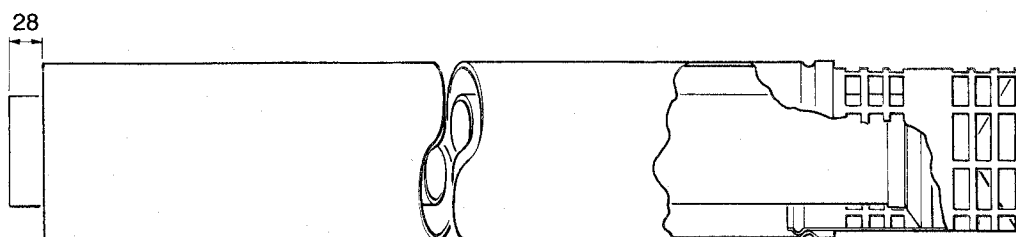

FIG. 11 STANDARD DUCT ASSEMBLY PROCEDURE
- (c) Refer to Fig. 11. Hold the air duct at the plain end, and slide the flue duct (small duct) inside the air duct (terminal first) until the external swage of the terminal stops against the internal swage of the air duct, then mark off the length to be cut, which leaves 28mm protruding flue duct.
- (b) Push the flue duct assembly into the air duct until the external swaged ring on the flue terminal stops against the internal swage on the air duct (Fig. 11).
- (c) Push the flue duct assembly into the air duct until the external swaged ring on the flue terminal stops against the internal swage on the air duct. Fig. 11.